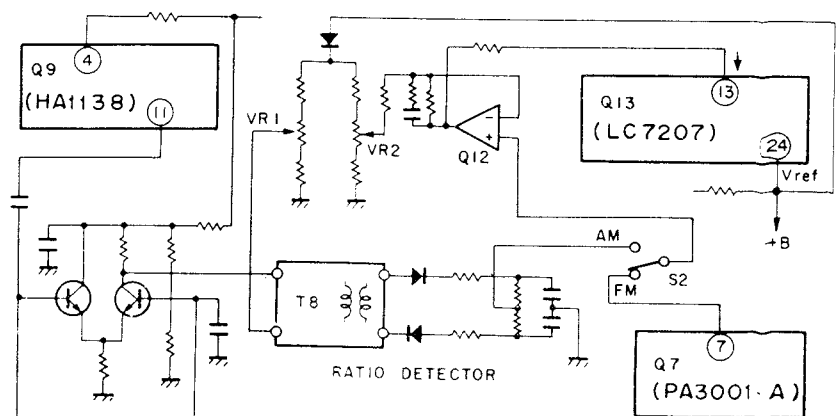

Fig. 4-6 S-Curve detector circuit
• S-Curve Detector Circuit (Fig. 4-6)